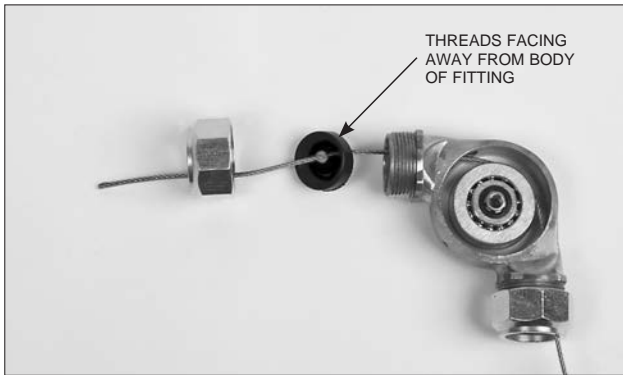

FIGURE 5-63
2. Thread the stainless steel wire rope through the EMT conduit connector and flexible conduit insert. Make certain thread in flexible conduit insert is facing out toward end of connector. See Figure 5-63.